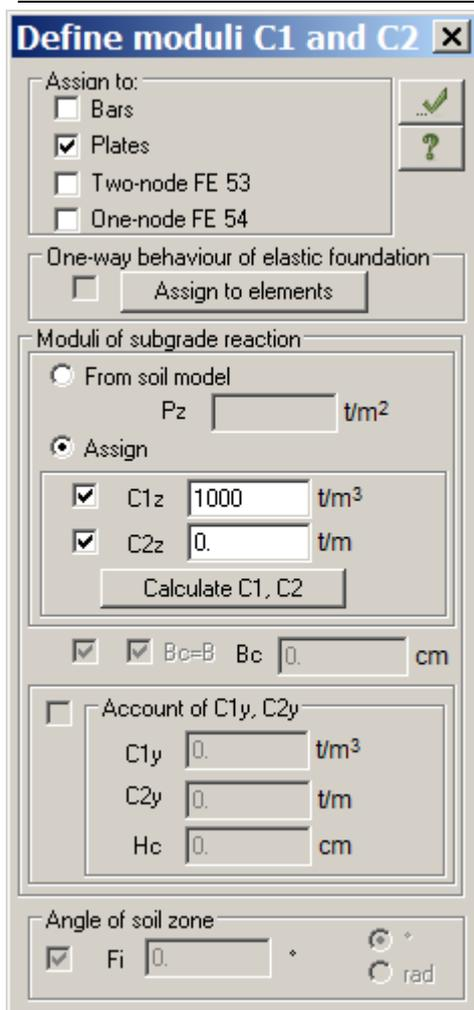

Figure 4.20 Define moduli C1 and C2 dialog box
- ⇒ In the **Define moduli C1 and C2** dialog box (see Fig.4.20), make sure that the **Plates** check box and **Assign** option are selected. To define moduli of subgrade reaction, in the **C1z** box specify its value as equal to $C1z=1000 \text{ t/m}^3$.